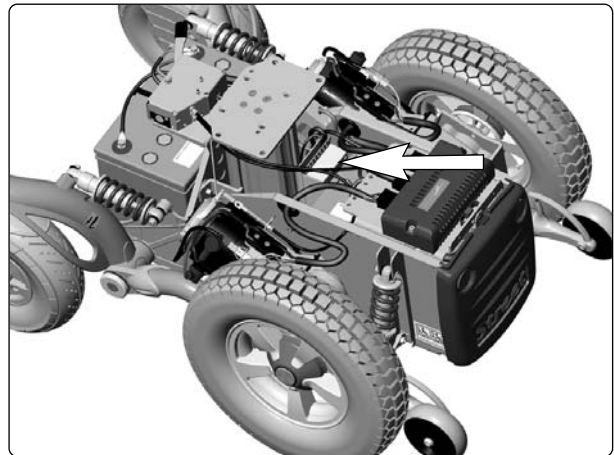

Fig. 68. SLS Drive stage unattached in its holder.
4. Lift the SLS Drive stage straight up from its holder; see figure 68.